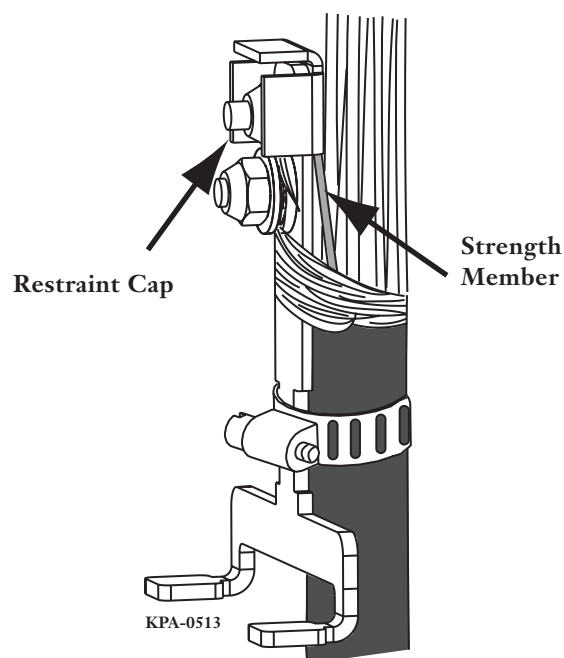

Figure 6 — Strength Member Strain-relief
- Step 3** With the nonmetallic strength member behind the bracket, install a nut on the restraint cap threaded stud (Figure 6).